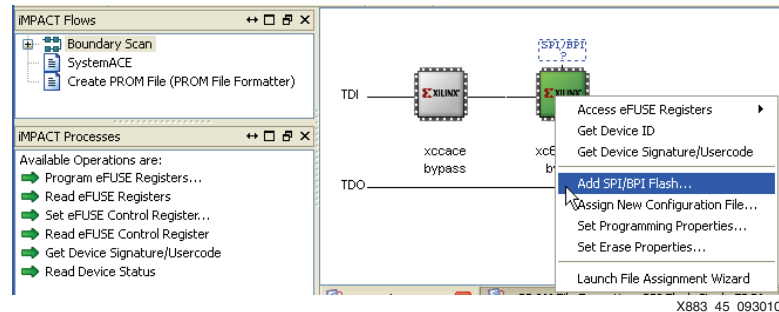

Figure 45: Add SPI/BPI Flash
17. Click on **Boundary Scan** in the iMPACT Flows pane. Right-click the FPGA and select **Add SPI/BPI Flash...** (see Figure 45).